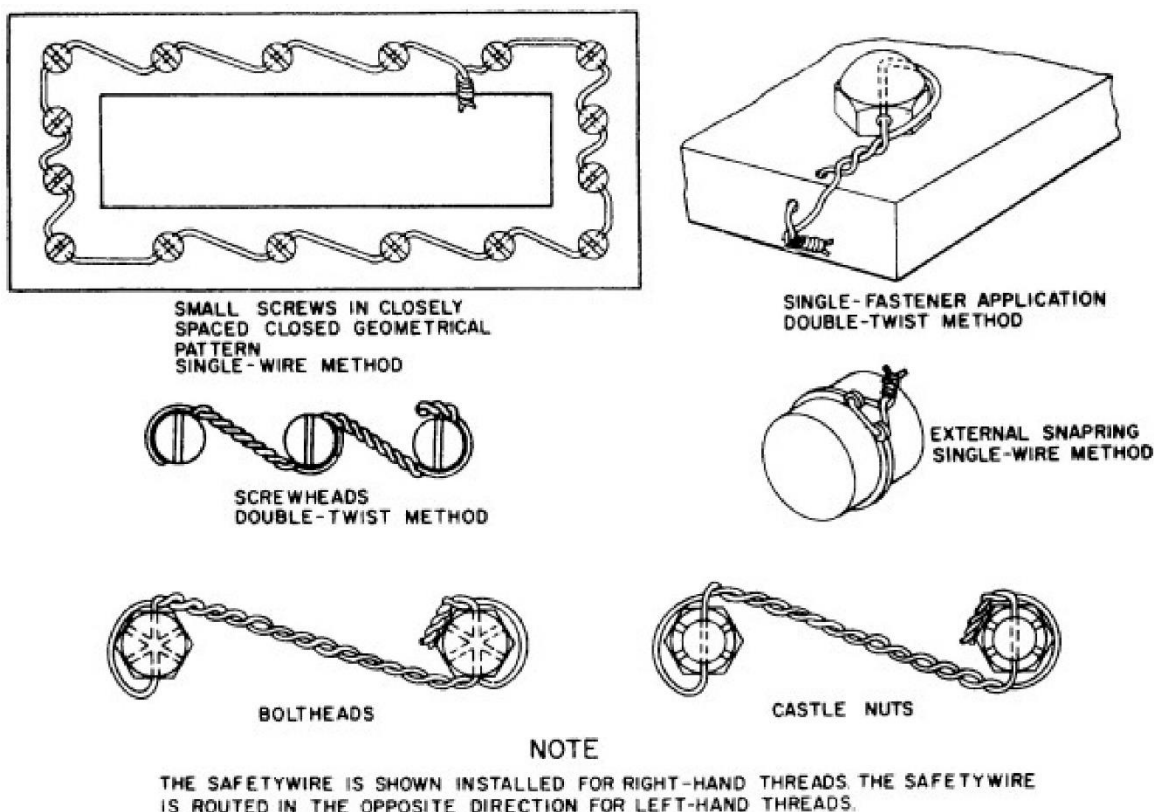

Figure 8-1: Single Wire and Double Twist Applications
1. **SINGLE WIRE METHOD** – The single wire method of safety-wiring shall be used on screws, bolts, and/or nuts in a closely spaced (2 inches or less between centers) or closed geometrical pattern such as a triangle, square, rectangle, square, or circle except when the closed geometric pattern is used to seal hydraulic or air seals, hold hydraulic pressure, or used in critical areas of clutch mechanisms and superchargers. This method shall be used for all shear and seal wiring applications. The single wire method may also be used on parts in electrical systems and in places that are difficult to reach. See Figure 8-1.